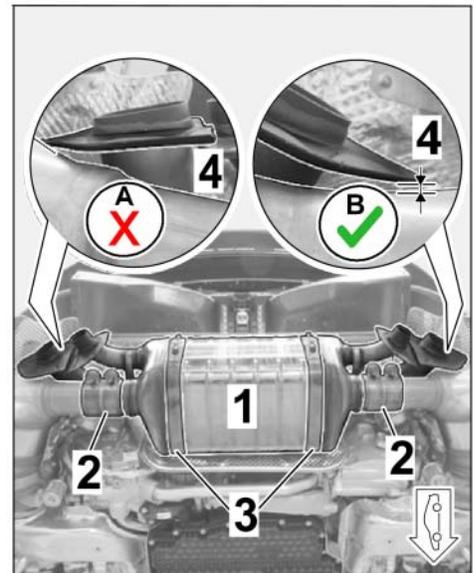

Figure 7
2.4.5 Position new silencer for sports exhaust system on the muffler holder and pre-install hand-tight with new restraining straps (2 pc(s)) (⇒ *Figure 7*).
2.4.6 Check whether the protective plate is touching the catalytic converter (⇒ *Figure 7-Magnifiers*).
- If YES (⇒ *Figure 7-A*): Correct the position of the silencer or bend the cover away if necessary so that there is a gap of at least 3–5 mm (⇒ *Figure 7-B*) between the plate and catalytic converter.
- If NO (⇒ *Figure 7-B*): continue with the next step.